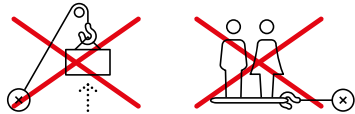

Fig. 1
**! WARNING** do not attach the load hook back to the rope, as this could damage the rope. This is shown in **figure 1**.